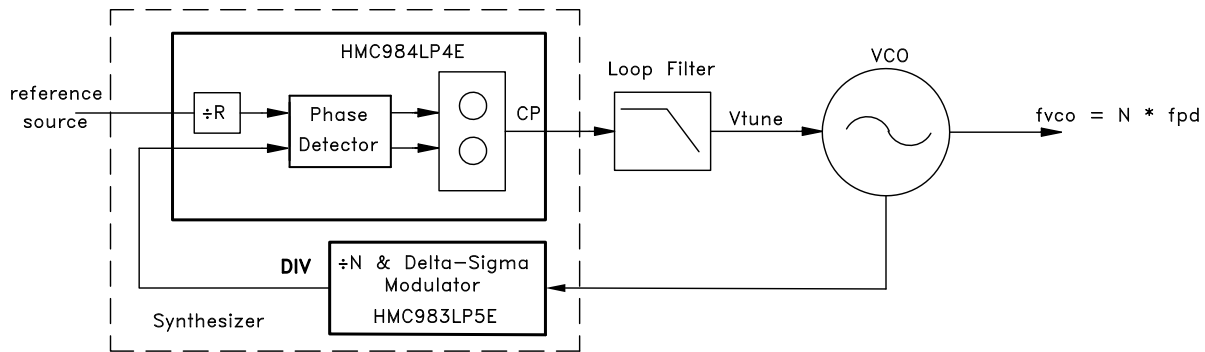

Figure 25. Typical Application of HMC984LP4E with HMC983LP5E to Form a Frequency Synthesizer
Primary target application of the HMC984LP4E is to be used with the HMC983LP5E as shown in Figure 25. Together these two components form a high performance, low noise, ultra low spurious emissions fractional-N frequency synthesizer. The two components are separated in order to maximize isolation between them, and minimize common distortion and modulation by-products that exist in all PLLs. Careful IC design and increased isolation between the two components result in high performance, high spectral efficiency PLL, with extremely low spurious emissions.
These four values help to visualize the main contributors to phase noise in the closed loop PLL. Each falls on a linear line on the log-frequency phase noise plot shown in Figure 25.
As shown in Figure 25, the HMC984LP4E features an ultra-low noise digital differential Phase Detector (PD) with two differential inputs. One input comes from the reference path divider and the other from VCO path divider. The reference input is internal to HMC984LP4E whereas the divided VCO input is external. The output from the PD is fed to the charge pump in HMC984LP4E which converts the PD digital output to a current with programmable gain. The output of the CP is directly proportional to the phase difference between the divided reference and the VCO path signals.
The input of PD is a differential current-input. The input interface configurations are shown in Figure 25 and Figure 25. The HMC984LP4E is designed to work with its companion divider part, the HMC983LP5E, that provides an open collector output. The inputs are internally pulled up to VCCPD with on-chip 50 Ω resistors. Thus, any open collector buffer can drive the PD inputs. A minimum of 750 mVpp single-ended level is needed to drive the PD inputs.